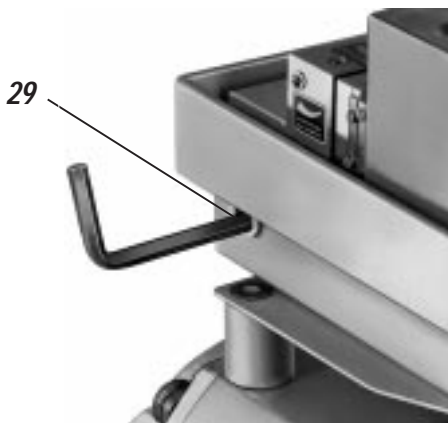

Fig. 24: Tightening the feedback lever
- g) Final mounting of the feedback lever **9** on the shaft of the positioner is performed at a stroke of 0 %, i. e. a rotation angle of 0 °. First loosen the 5 mm A/F Allen screw of the feedback lever **9** through the hole **29** (see Fig. 24 and 25), then press the stroke factor lever **31** against the stop screw **30** and tighten the Allen screw firmly.